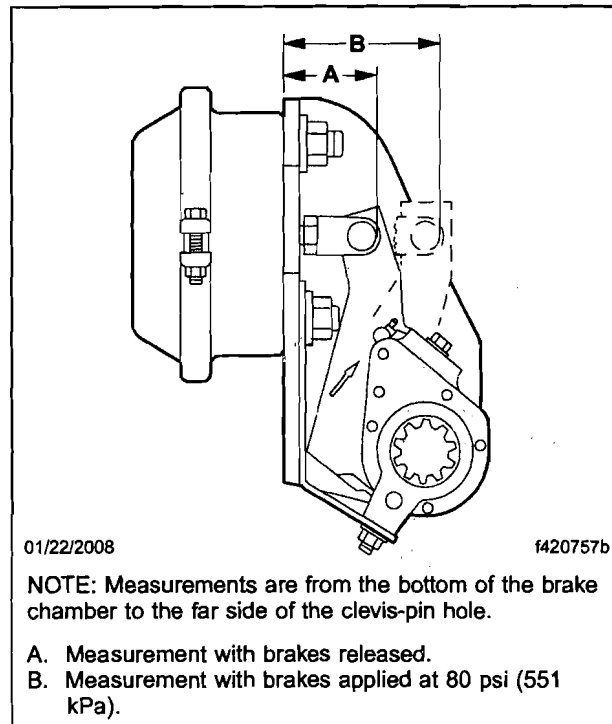

Fig. 4, Brake Applied Stroke Check
- 29.1 With the brakes released (pushrod fully retracted), measure the distance from the bottom of the brake chamber to the far side of the clevis-pin hole. See Fig. 4. Record the exact distance as measurement A.